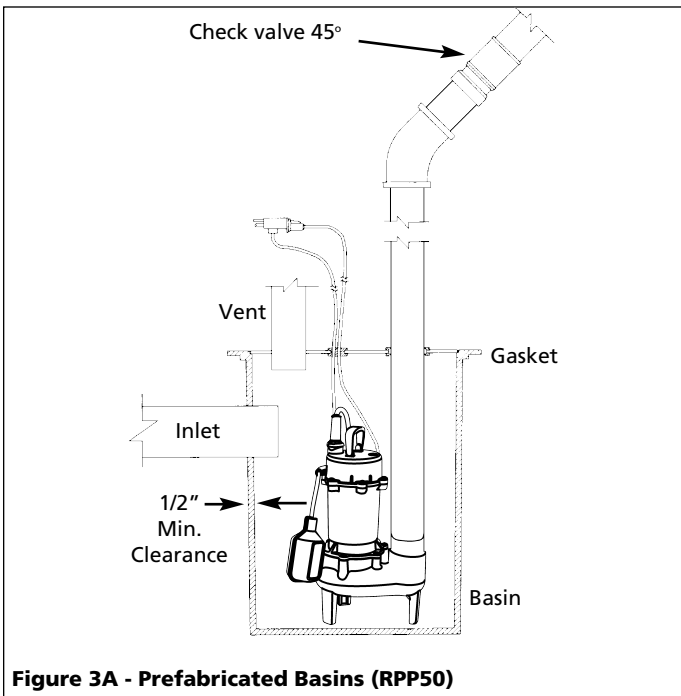

Figure 3A - Prefabricated Basins (RPP50)
6. The RPP50 pump has a detachable tether switch with a piggyback plug (see Figure 3A). The length of the tether (distance of cord from float to clamp) should not be set shorter than 3-1/4 inches and should not be used in a basin smaller than 14 inches in diameter. If using a differential other than the factory setting, be sure when the pump shuts off at least 4" of fluid is left in the basin so the impeller remains submerged.